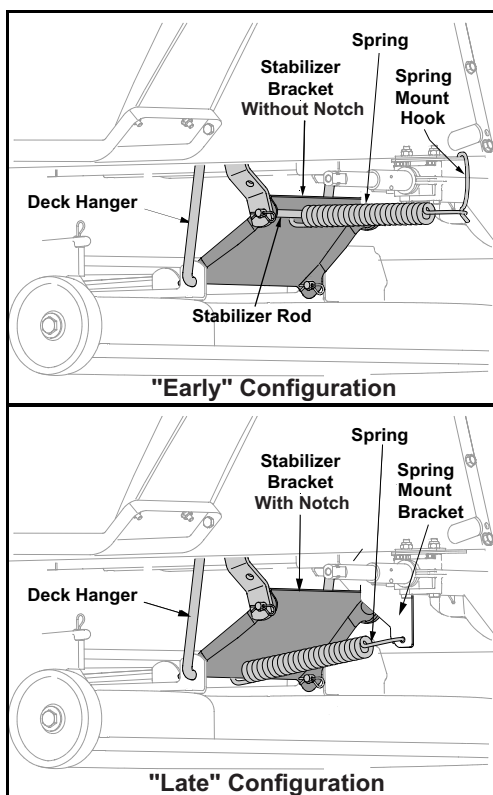

FIGURE 2
5. Look at the unit's stabilizer bracket/deck tensioning spring setup to determine which configuration is present on the unit. (See Figure 2)
7. Remove and discard the Spring Mount Hook, Spring, Stabilizer Rod and Deck Stabilizer (without Notch). See Figure 2 "Early" Configuration.